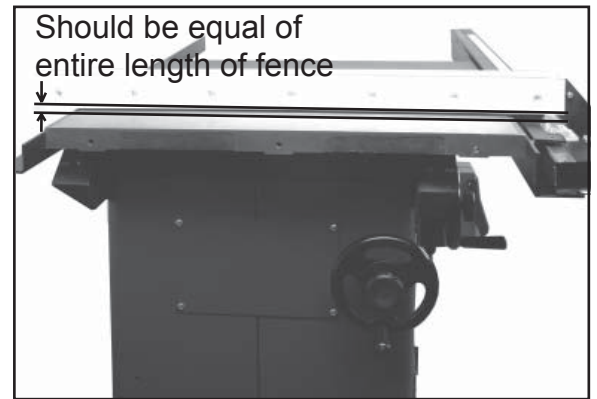

Figure 12
4. View the fence from the left side of the saw (Figure 12). Look for the space between the table and the fence bottom to be equal along the entire length of the fence.